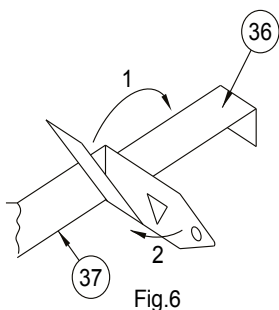

Fig. 6
1. Attach one Furring Channel Bracket (36) to each Hanger Bar (37) as shown in Fig. 6 and 7. CAUTION: Maintain a firm hold on Luminaire until Steps 2 and 3 are complete.